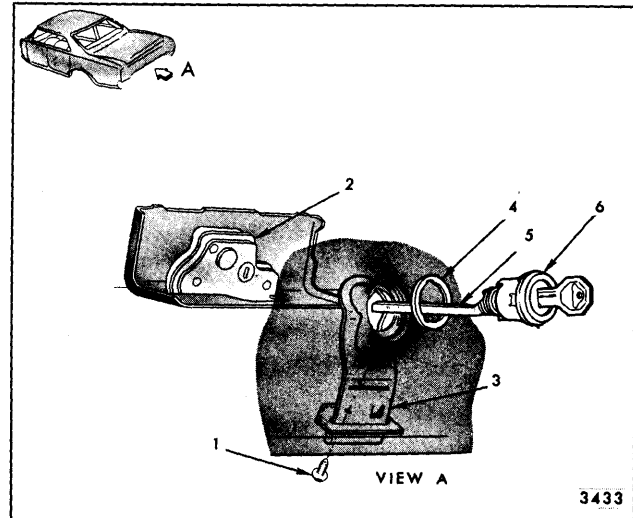
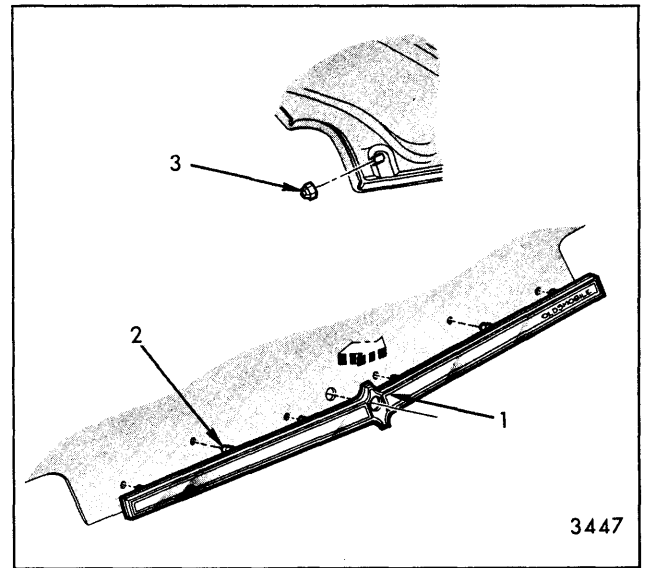

Fig. 8-15—Rear Compartment Lid Lock Cylinder Assy. - Typical Deck Lid Attachment (Bottom Load)
Fig. 8-19—Rear Compartment Lower Moldings
3. On Oldsmobile "A" styles, remove stud nuts securing rear compartment lid lower molding (Fig. 8-19). The lock cylinder can now be removed as shown in Figure 8-15.